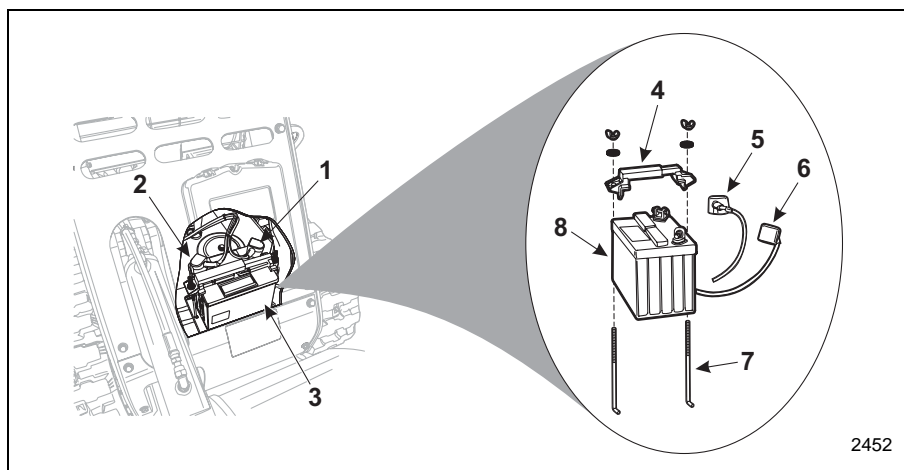

Figure 4-14 Battery and Connections
- On a monthly basis, check the battery (Item 8, Figure 4-14) for signs of leaking electrolyte. If any signs of damage are visible, remove and replace the battery.
9. Check both of the battery cables (Items 5 and 6, Figure 4-14) for signs of damage or corrosion.
11. Check the battery hold down clamp (Items 4 and 7, **Figure 4-14**) to make sure that the battery is being held securely to the machine.